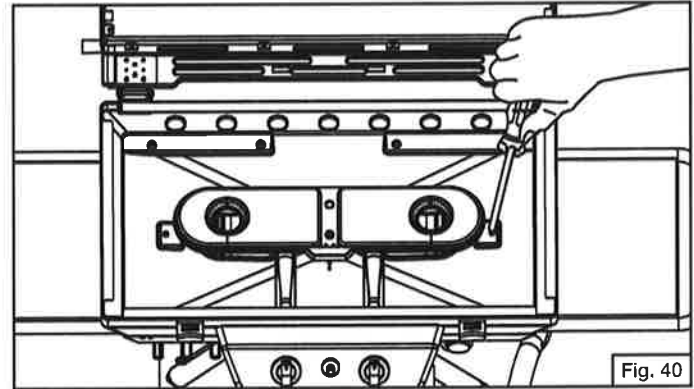

Fig. 40
3. Using a screwdriver, remove the self-tapping screws holding the burner clamps beneath the case and remove the burner. (Fig. 40)